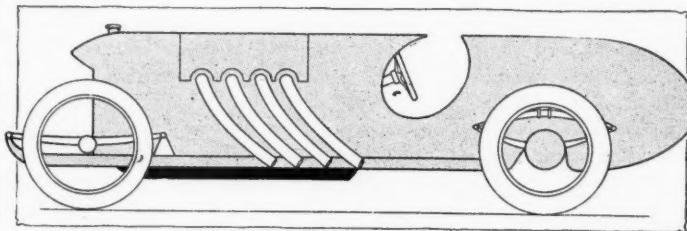

Fig. 5—Car body designed for light high-speed work
**Editor THE AUTOMOBILE:**—I am sending you a drawing, Fig. 5, of a light car that I am building. It is of the underslung type; is 105 inches long and has a tread of 48 inches. I am going to use 28 by 3 wheels and have a 20-30 horsepower motor. It will have a 10 3-4 inch road clearance and the transmission is a three-speed sliding gear and reverse. If I use a 48-inch tread, rear axle of the racing type that is used in the Tiger light car, 3 to 1 gear, would a 20-30 horsepower motor be too much for it?